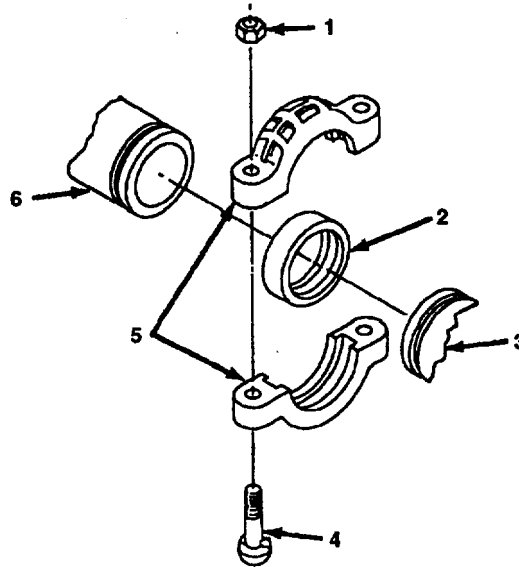

Figure 2-12. Grooved Pipe Coupling.
2.3.2 Grooved Pipe Coupling Removal and Installation. Remove and install grooved pipe coupling (Figure 2-12) as follows:Tools
- a. Disassemble grooved pipe coupling by removing two nuts (Figure 2-12, 1), bolts (4), coupling halves (5), and gasket (2).
- b. Check gasket (2) for damage. If gasket (2) is damaged, replace it.
- a. Apply thin coat of non-petroleum silicone lubricant (item 5, appendix E) to gasket lips and outside of gasket (2).